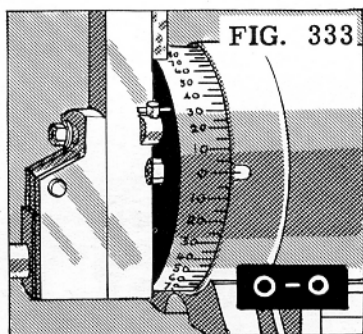
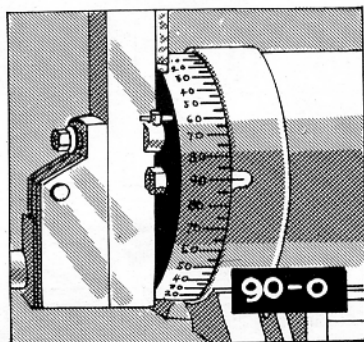

FIG. 333
FIG. 334
Those heads which start with a zero graduation when the head is in a vertical position are graduated to indicate an angular position from 0° to 60° on each side of the vertical position (Fig. 333). Other heads have a 90° graduation which coincides with the zero mark on the ram when the head is in the vertical position (Fig. 334).
In other words, the graduations are arranged to increase numerically from the zero in each direction in Fig. 333, and are arranged to decrease numerically from the 90° in each direction in Fig. 334. Both, however, will indicate an angular position through sixty degrees on each side of the vertical position. This factor must be taken into consideration whenever the head is swiveled for an angular cut.
The job shown in Figure 340 has a 90° opening. If an imaginary line (A), Fig. 341, is drawn perpendicular to the work, the 90° angle will be divided into two 45° angles. This, then, is the angle at which the head must be set when the surface (B) is machined. In this particular case, it is unimportant whether or not the head starts with a zero graduation (Fig. 333) or a 90° graduation (Fig. 334). As 45° is halfway between 0° and 90° , the head may be set first at 45° to the right of the vertical position. To finish the opposite surface, the work may be reversed in the vise or the head may be set 45° to the left of the vertical position.